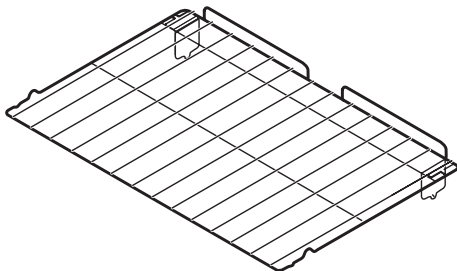

Figure 5
- **Effortless™ oven rack** (Figure 5 - Some models).